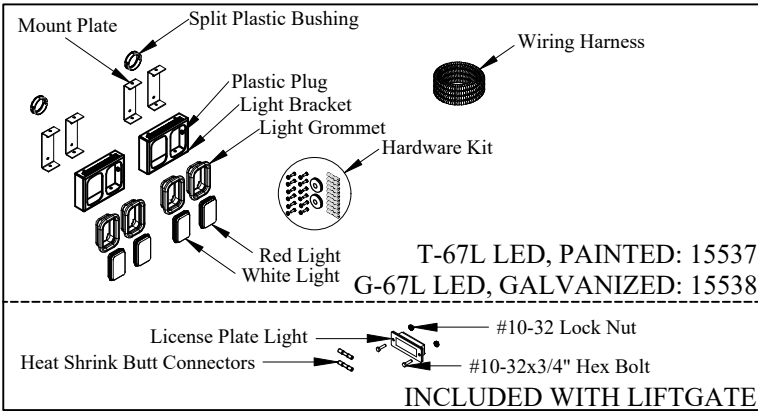

Figure 1: Part Identification
- 1. **Verify** kit (Figure 1, Table 1).
- 2. **Locate** the license plate light and mounting hardware in the maintenance manual kit (Figure 1, Table 1).